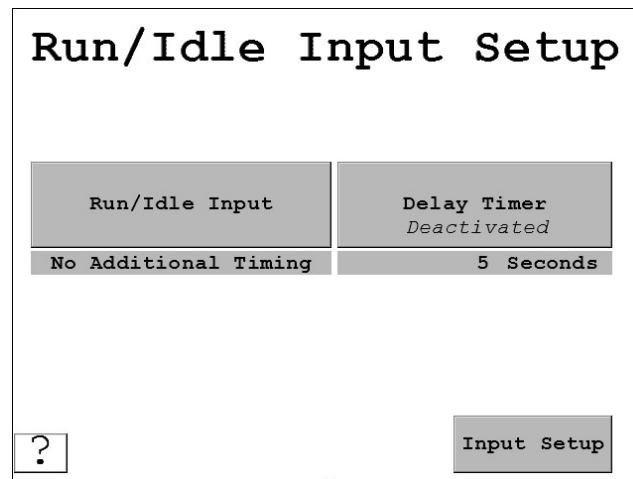

Figure 3-11. Run/Idle Input Setup Screen
3. Press *Run/Idle Input* to display the Run/Idle Input Setup screen, Figure 3-11, below.
The default setting for the Run/Idle input is “No additional timing,” as shown in Figure 3-11. When this setting is selected, the SMI 2 records each 24 VDC signal from the Run/Idle input as a machine state change from “Idle” to “Running.”